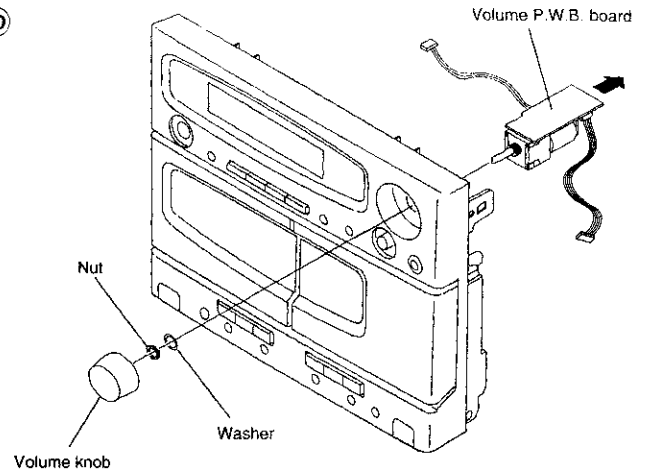

Fig. 8
(1) Remove 2 screws ⑰ from (bottom of) front panel.
(2) Remove 2 screws ⑱ from 2 Mecha holders (for holding the cassette mechanism to the bottom chassis.)
(3) Remove the bottom chassis from the front panel.
8. **Removal of Volume P.W.B. Board (Fig. 8)**